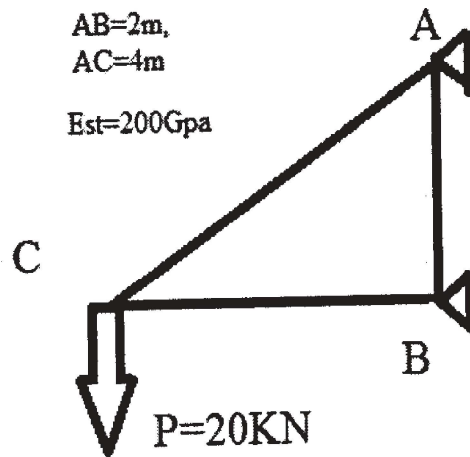

Fig 1
- Q5)** A truss as shown in figure 1, is loaded at point C, with 20 kN force. The members AC, AB, CB are made of steel are of same cross-section. Write the global stiffness matrix for the truss. Hence write the Force displacement matrix. [10]